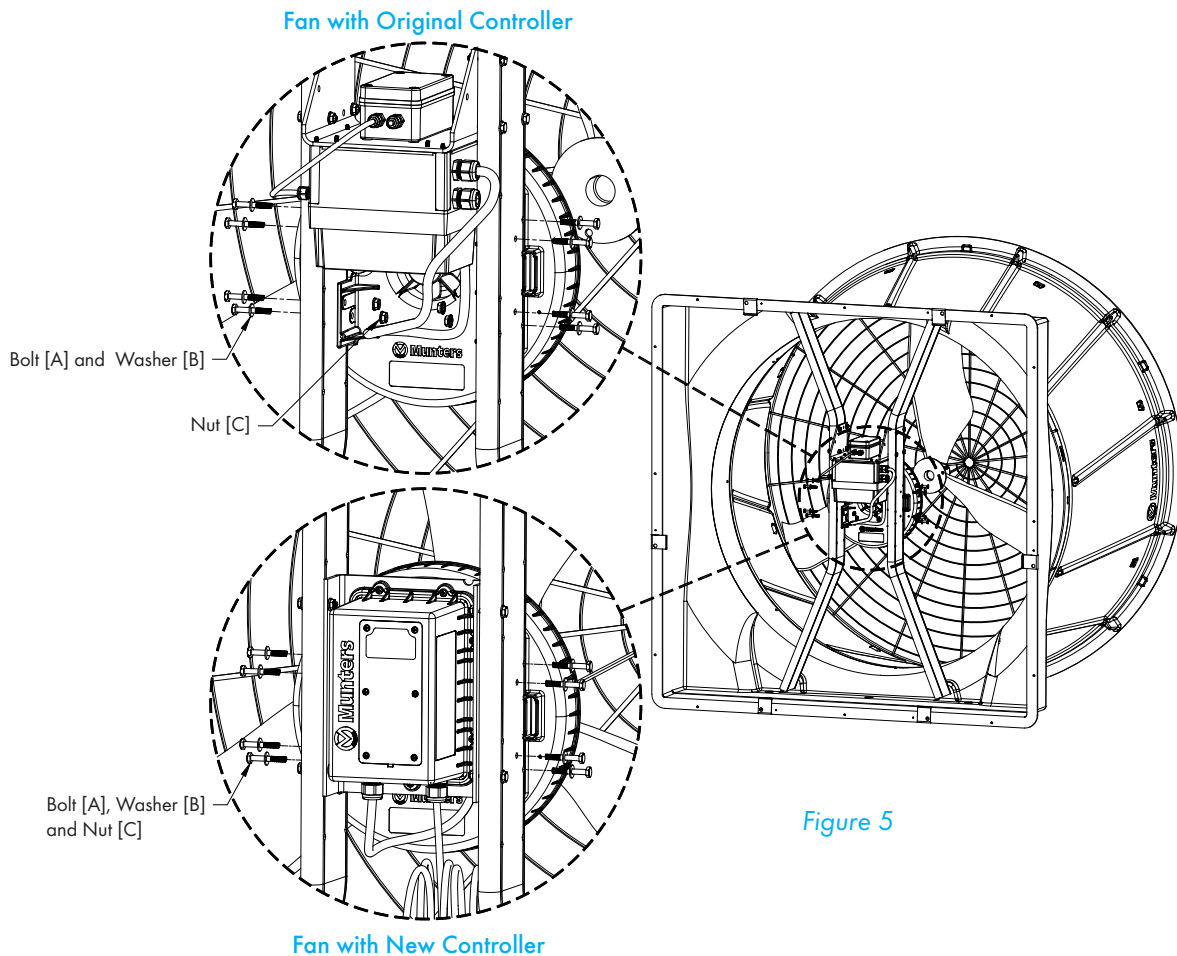

Figure 5
Reconnect cable with Quick Connector from Controller to Motor. Carefully lift motor into place with the mounting flanges between the struts and secure in place using (8) Bolts [A], Washers [B] and Nuts [C]. See Figure 5. If bolts were removed from the Controller assembly in step 3, replace these bolts, washers and nuts now.